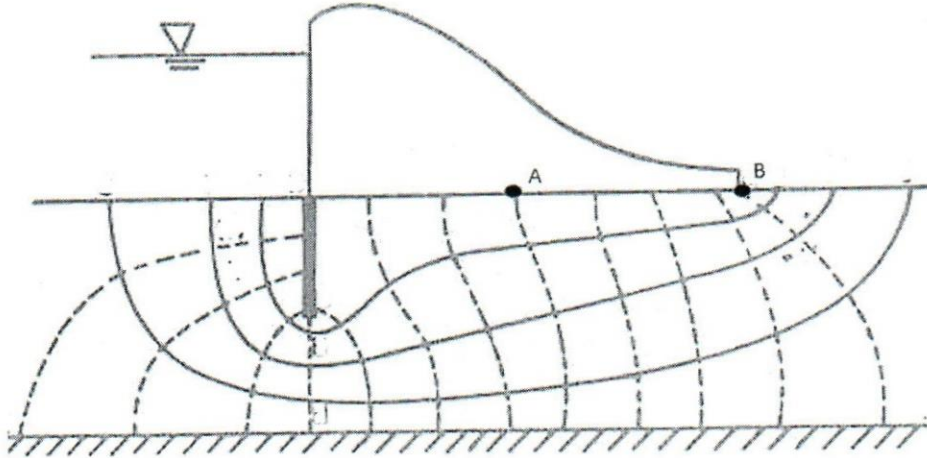

Figure 1
- b) Figure 1 given below shows a flow net drawn for a sheet pile wall on an isotropic sandy soil layer (thickness of 10m) with a permeability of 3×10^{-4} cm/s. The water table in upstream & downstream located 5m & 0m from the ground level.